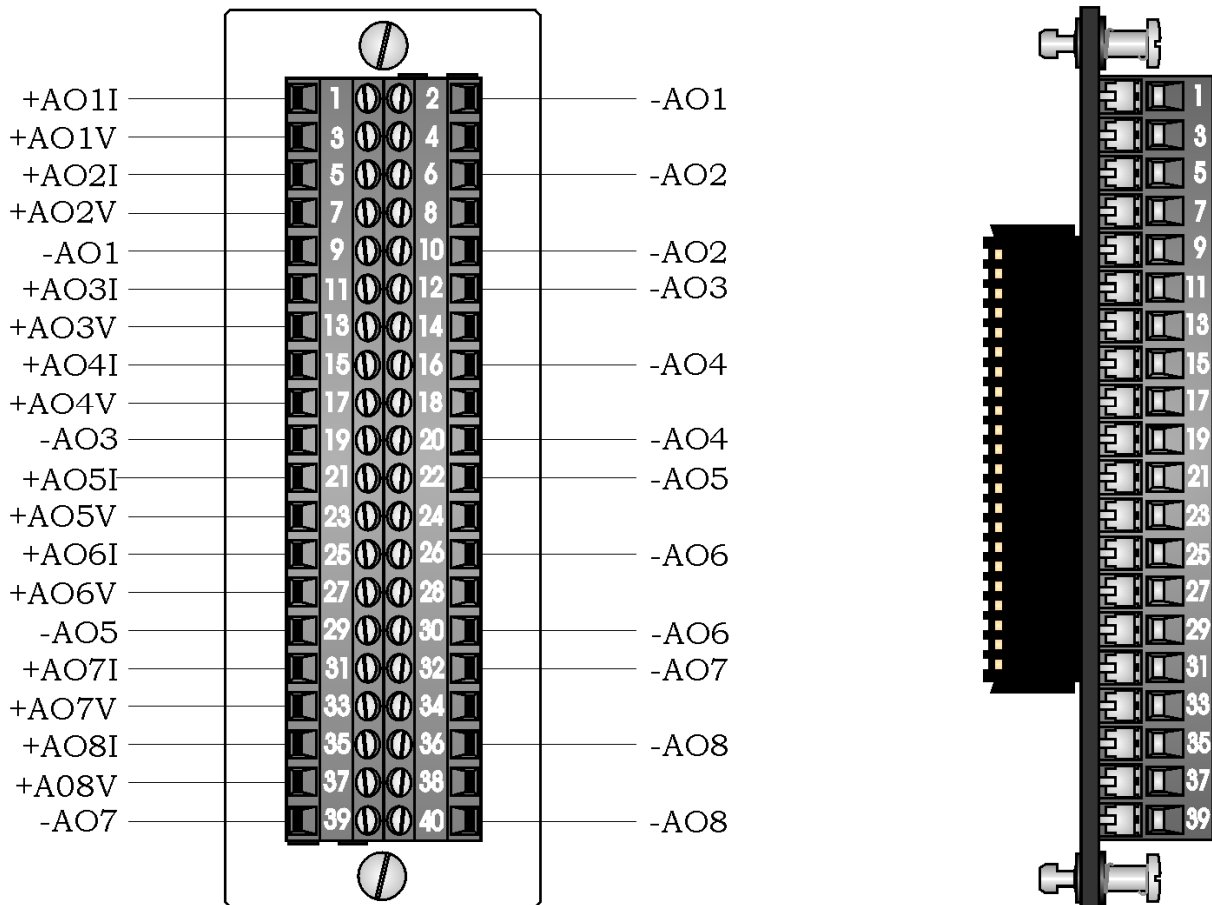

Figure 2-23 - Local AO Module Terminal Blocks Assembly Assignments
2.3.2.7 Analog Outputs (see Figures 2-23 through 2-26)
ControlWave Analog Output Modules are factory configured to support either eight (8) 1-5V or 4-20mA isolated outputs. Field wiring assignments associated with the locally terminated AORS Modules are provided in Figures 2-23 while wiring assignments associated with the remotely terminated AORS Modules are provided in Figure 2-24.